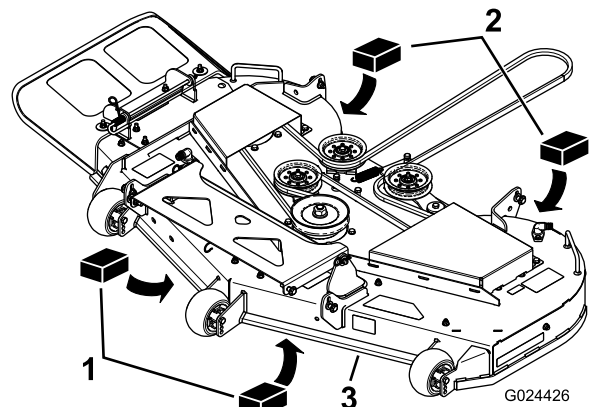

Figure 71
3. Place 2 6.6 cm (2-5/8 inches) blocks under each side of the front edge of the deck, but not under the anti-scalp roller brackets (Figure 71).
4. Place 2 7.3 cm (2-7/8 inches) thick blocks under the rear edge of the cutting deck skirt; one on each side of the cutting deck (Figure 71).